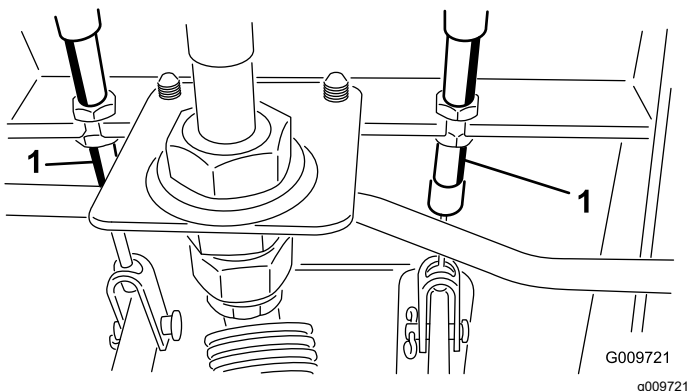

Figure 111
- A. Loosen the front nut on the threaded end of the brake cable (Figure 111).